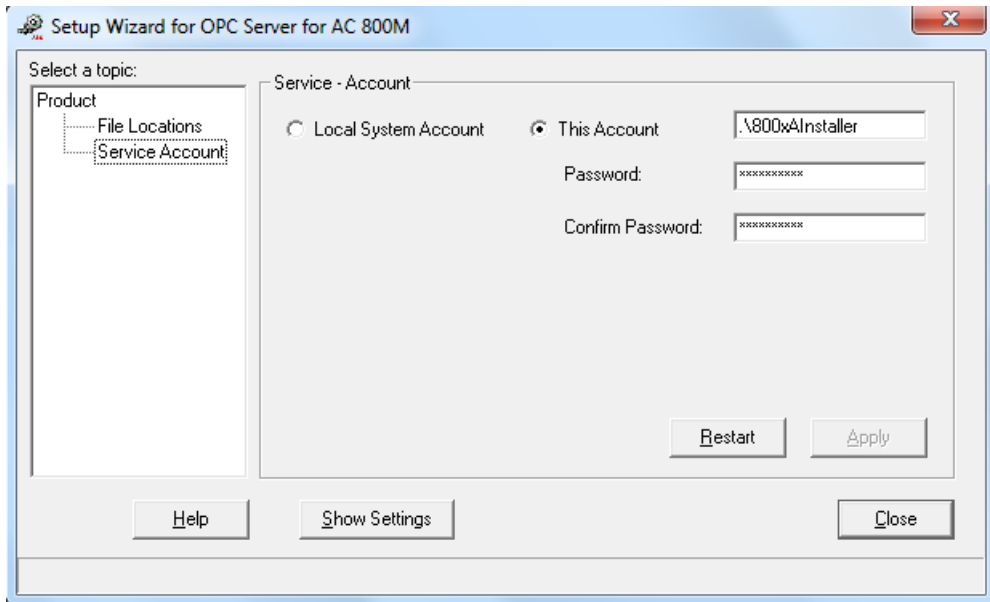

Figure 73. The Service Account topic for OPC server showing the current login name
- If *Local System Account* (see Figure 73) has been selected previously in the Setup Wizard, only members of MyTeam group should login to the PC machine, or the OPC Server is interrupted.
- If *This Account* (see Figure 73) has been selected previously in the Setup Wizard, any user including an operator can login to the PC machine without interrupting the OPC Server traffic.